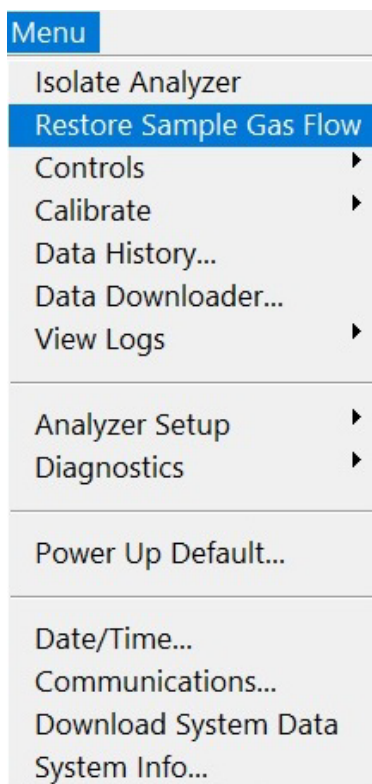

Figure 13: Starting Gas Flow
15. After warm-up and purge are complete, establish sample gas flow by pressing the menu key and selecting **Restore Sample Gas Flow** as shown in **Figure 13**.
5. The state of the gas control valves for the moisture sensor is indicated on the main display. The default state of a factory-shipped instrument is isolation of the sensor. This can be adjusted as described in **6.3.17 Power Up Default**. If the sensor is in isolation, establish process gas flow by selecting **Restore Sample Gas Flow** on the main menu as shown in **Figure 13**